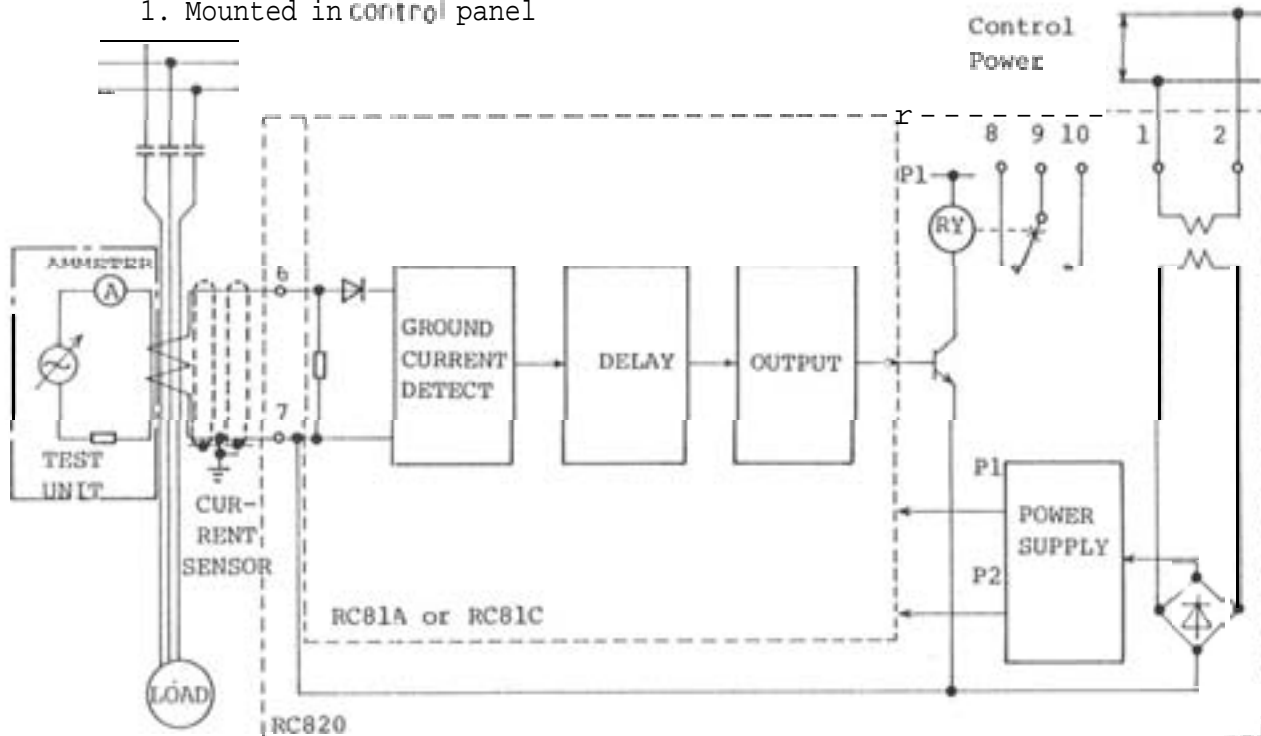

Fig. 12 Test circuit
3. Connect the test wire through the ZCT window as show in Fig. 12.